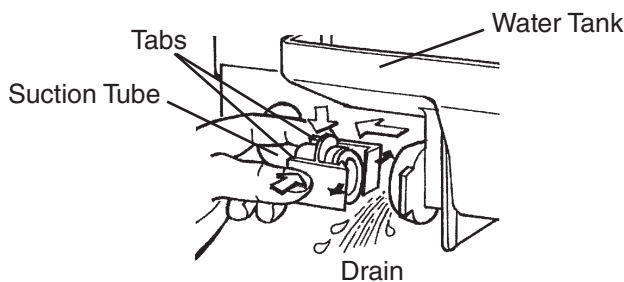

Fig. 31
- 6) Inside the storage bin, disconnect the suction tube by squeezing the tabs and pulling the tube clear. See Fig. 31. Allow the water tank to drain.